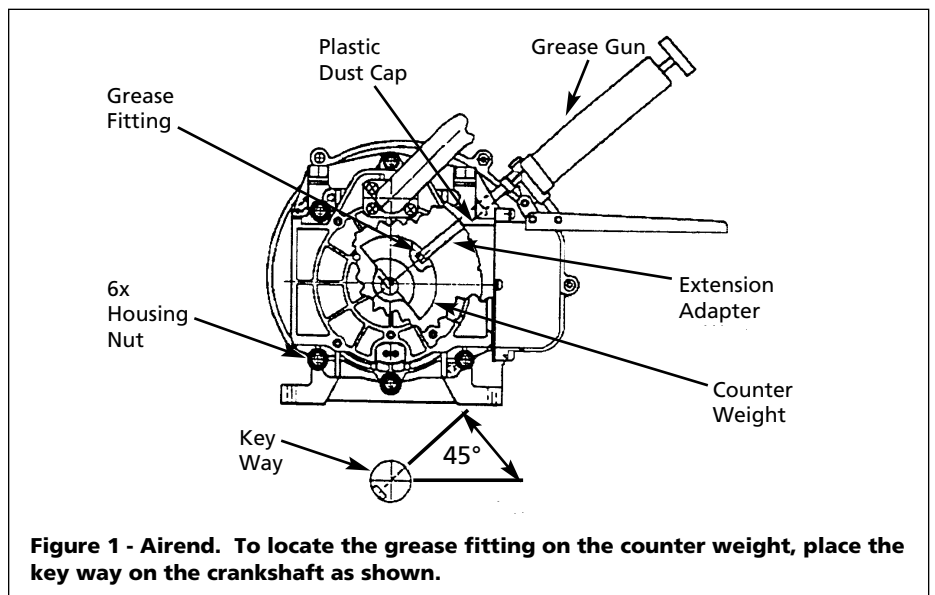

Figure 1 - Airend. To locate the grease fitting on the counter weight, place the key way on the crankshaft as shown.
1. Remove the plastic dust cap from the airend. See Figure 1.
4. Remove the six nuts (Fig. 1).